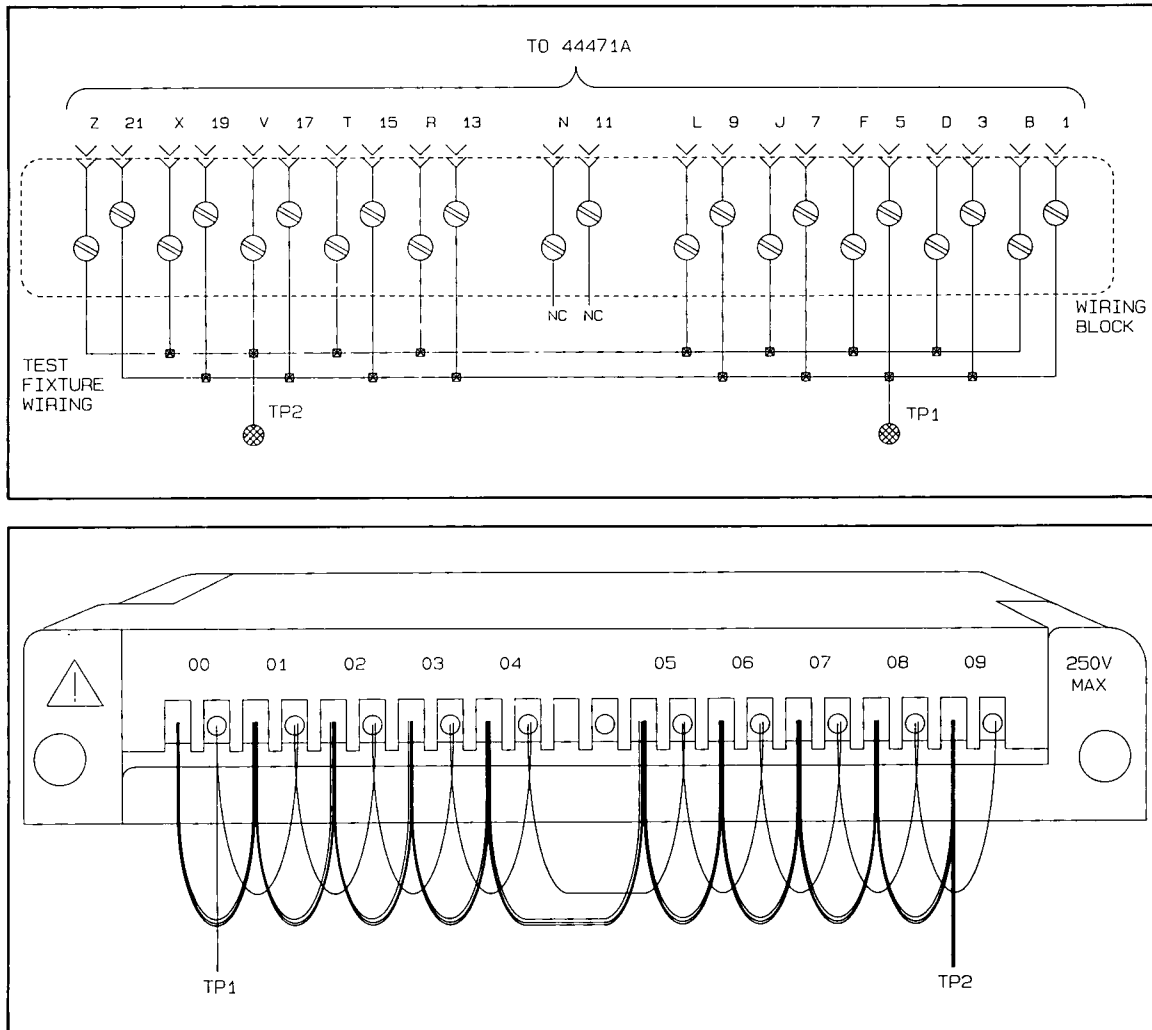

Figure 9-4 44471A Test Fixture
a. A test fixture is available from Hewlett-Packard (HP part number 03488-66501). The advantages of this fixture are (1) it requires no assembly and (2) it can be used to test the 44470A, the 44471A, the 44473A and the 44474A plug-in cards without modification.
b. A test fixture can be constructed by configuring an HP 44481A removable wiring block as shown in Figure 9-4. This particular test fixture can only be used to test the 44471A.